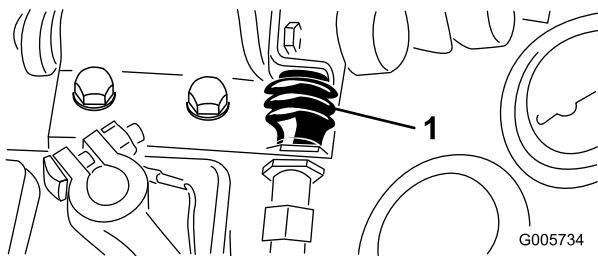

Figure 71
3. Remove boot from button end of PTO switch (Figure 71). Retain boot for reinstallation. Separate switch wire connectors.